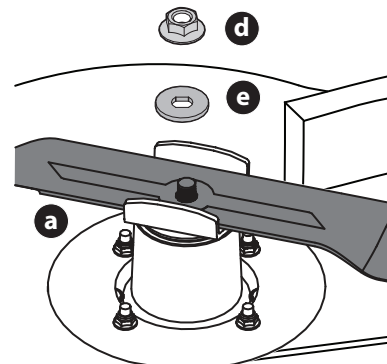

Fig. 45
- Remove the flange nut (d) and flat washer (e) securing the blade (a) to the mower and remove the blade (Fig. 45).